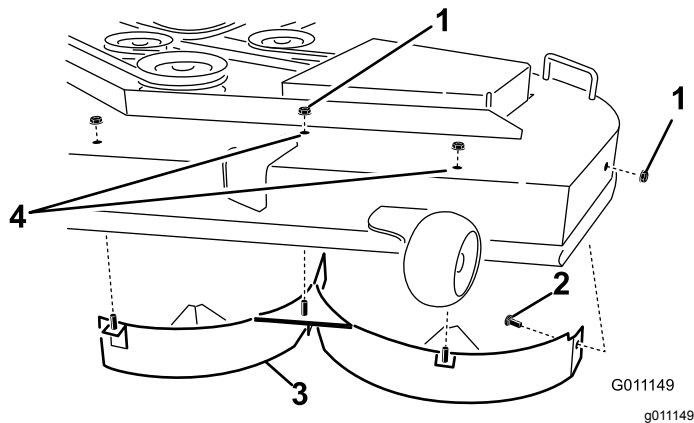

Figure 32
5. Remove the 3 locknuts (5/16 inch) secured to the welded posts of the left baffle on the top of the mower deck at the center, left of center and left positions (Figure 32).
6. Remove the carriage bolt and locknut on the side wall of the mower deck securing the left baffle to the deck (Figure 32).
7. Remove the left baffle from the mower deck (Figure 32).
8. Locate the 2 bolts in loose parts and use the existing locknuts and install these fasteners into the holes shown in Figure 32 on the mower deck to prevent flying debris.